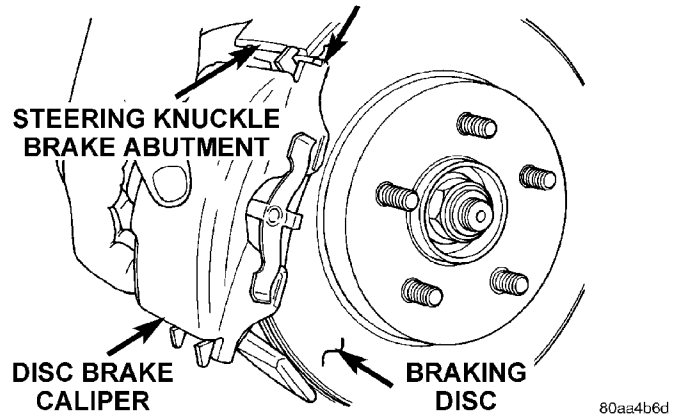

Fig. 27 Brake Caliper Installation
(7) Install the disc brake caliper on the steering knuckle. Caliper is installed by first sliding top of caliper under top abutment on steering knuckle. Then installing bottom of caliper against bottom abutment of steering knuckle (Fig. 27).